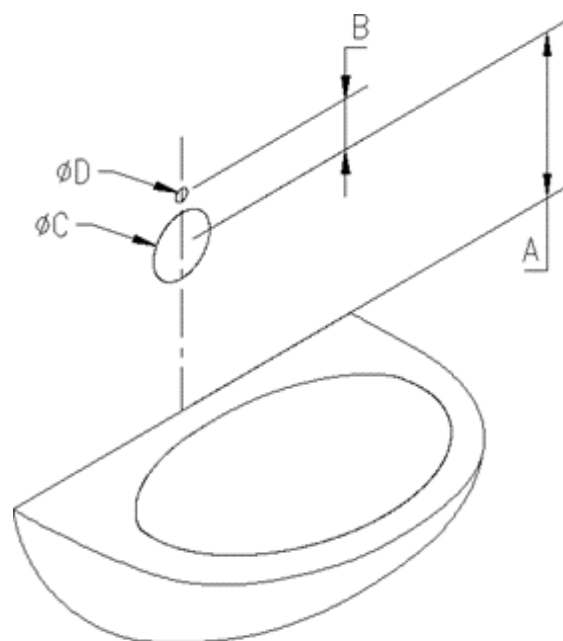

Figure 1 - Basin Layout
1.2.1 Before installation, 2 holes must be bored in the panel in the configuration shown in Figure 1.